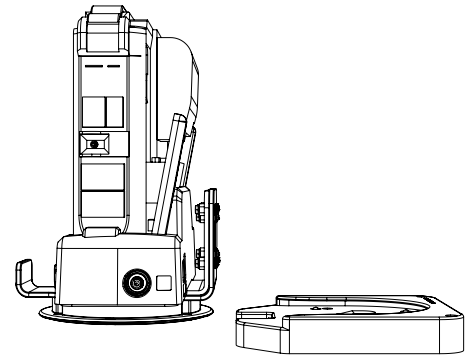

Figure 7: Removing the Bracket Pro Serie 76 PX SMT from the Standard Surface Base (2 of 2)
2. Press and hold the quick release button of the Standard Surface Base (Figure 7 A), then pull the medical device horizontally out of the base using the bracket handle (Figure 7 B and Figure 7 C).